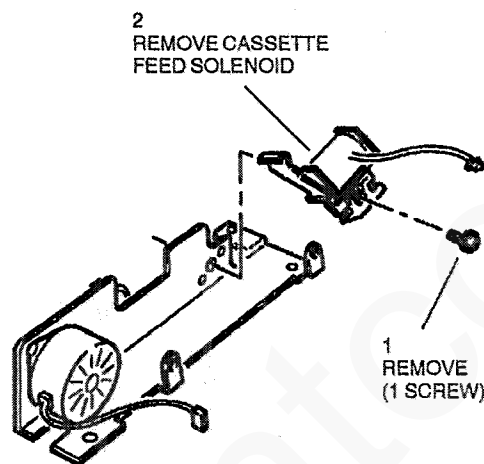

Figure 1. Tray 2 cassette feed solenoid removal
2. (Figure 1) Remove the tray 2 cassette feed solenoid.